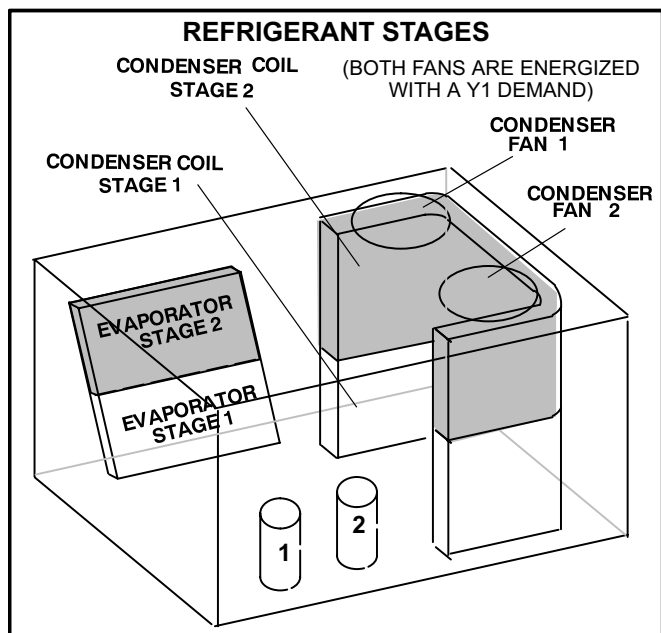

FIGURE 13
- 3- Units contain two refrigerant circuits or stages. See figure 13.